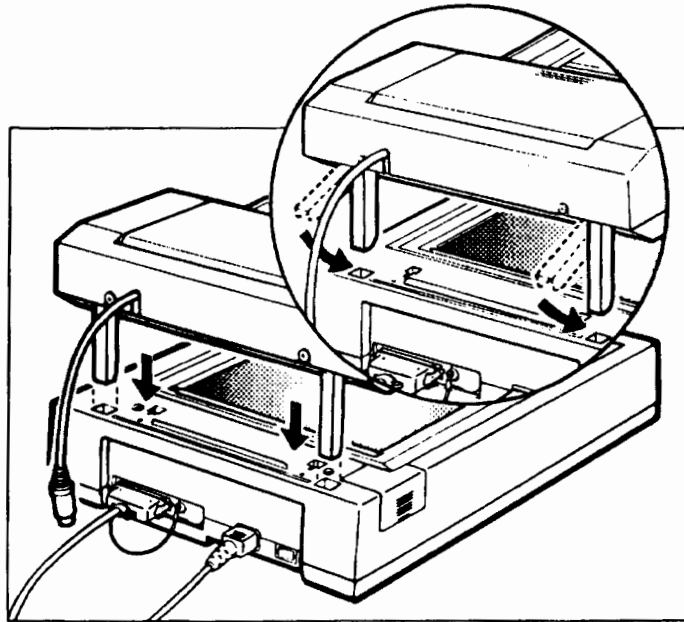

Figure D-4. Rotating the Metal Rods
5. Rotate the ADF metal rods until they are perpendicular to the ADF. See figure D-4. If one or both rods will not rotate to that position, do not try to force them. Instead, install the ADF with the rods in a position horizontal to the ADF.